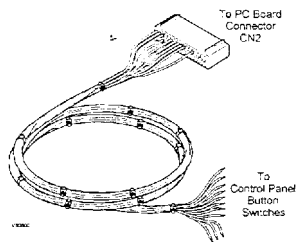

Figure 6: Auxiliary Cable Harness
22. Connect the player 1 and the player 2 start buttons to the auxiliary cable harness as shown in figure 6. Make the connections according to the chart in table 2 on page 17.